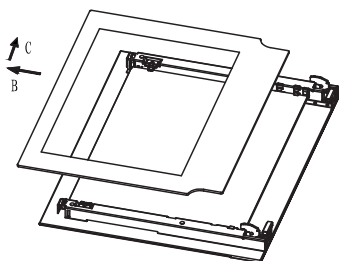

Fig.2
- Now, shutting the door slightly, you can lift it out by pulling out the hooks "A" as shown in figure 2.
2. Take out inner glass slowly. (Fig.2)